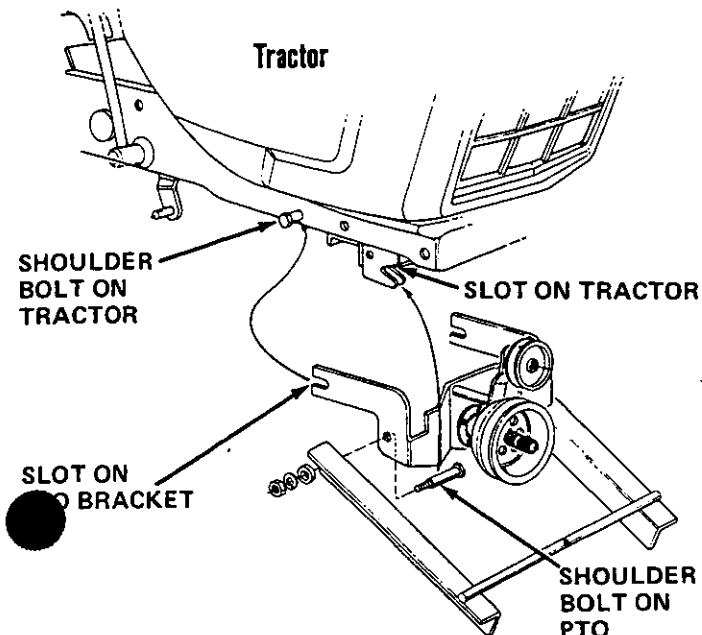

FIGURE 4
5. Place PTO assembly in position on front of the tractor. Push the quick hitch latch down and slide shoulder bolts on PTO assembly into slots on tractor. Shoulder bolts on tractor go into slots on PTO assembly. See figure 4.